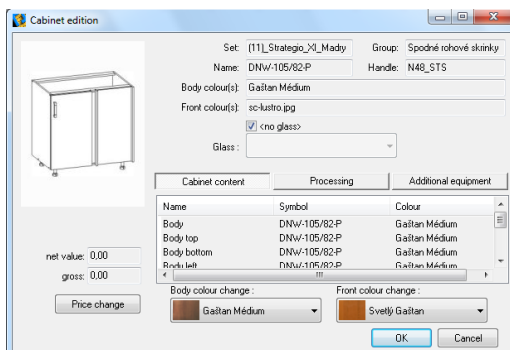

Fig. 297 – editing a cabinet
- **Modify element** – icon (Fig. 297)